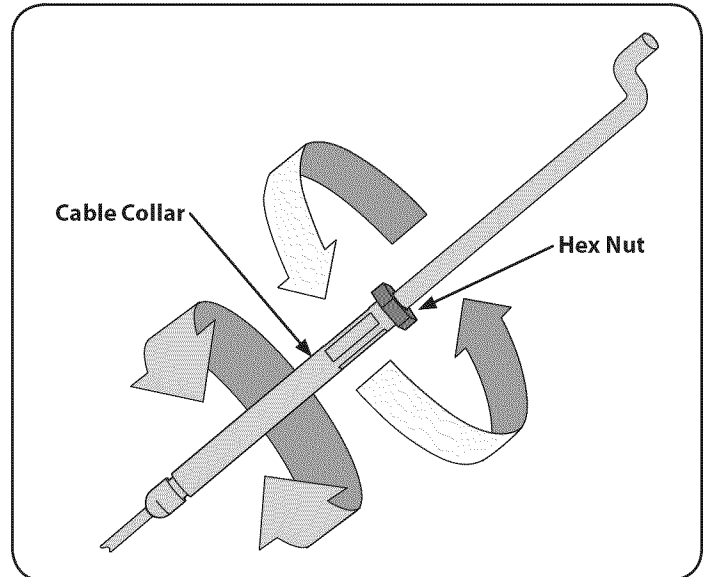

Figure 10
2. Adjust the forward clutch cable by loosening the hex nut. See Figure 10.
3. Turn the cable collar section one or two turns to increase or decrease tension on the cable. See Figure 10.
4. Retighten the lock nut against the cable collar. See Figure 10.